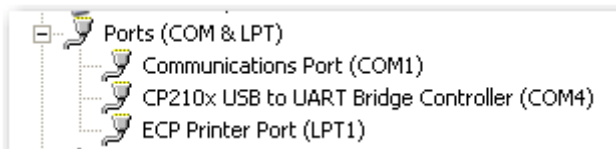

Figure 2-10 • Determining the USB Serial Port's COM Port
- Determine the COM port assigned to the USB interface. Open the Windows Control Panel and double-click the **System** icon. Click the **Hardware** tab and click the **Device Manager** button. Expand the **Ports (Com & LPT)** item in the Device Manager. Look for the CP2102 USB to UART Bridge Controller in the list of ports. The COM port in parentheses identifies the COM port assigned to this device (Figure 2-10). If you do not see CP2102, you need to install the CP210x_Drivers driver. Refer to "Installing the M1AFS-ADV-DEV-KIT Board USB Serial Driver" section on page B-31 for more information.